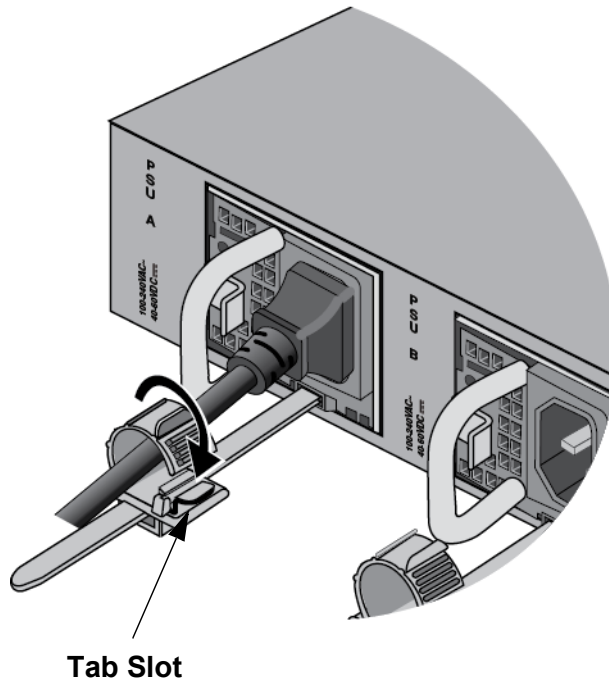

Figure 123. Securing the Power Cord with the Restraining Strap
2. Move the power cord into the restraining strap and secure the strap by feeding it into the tab slot. Refer to Figure 123 on page 197.